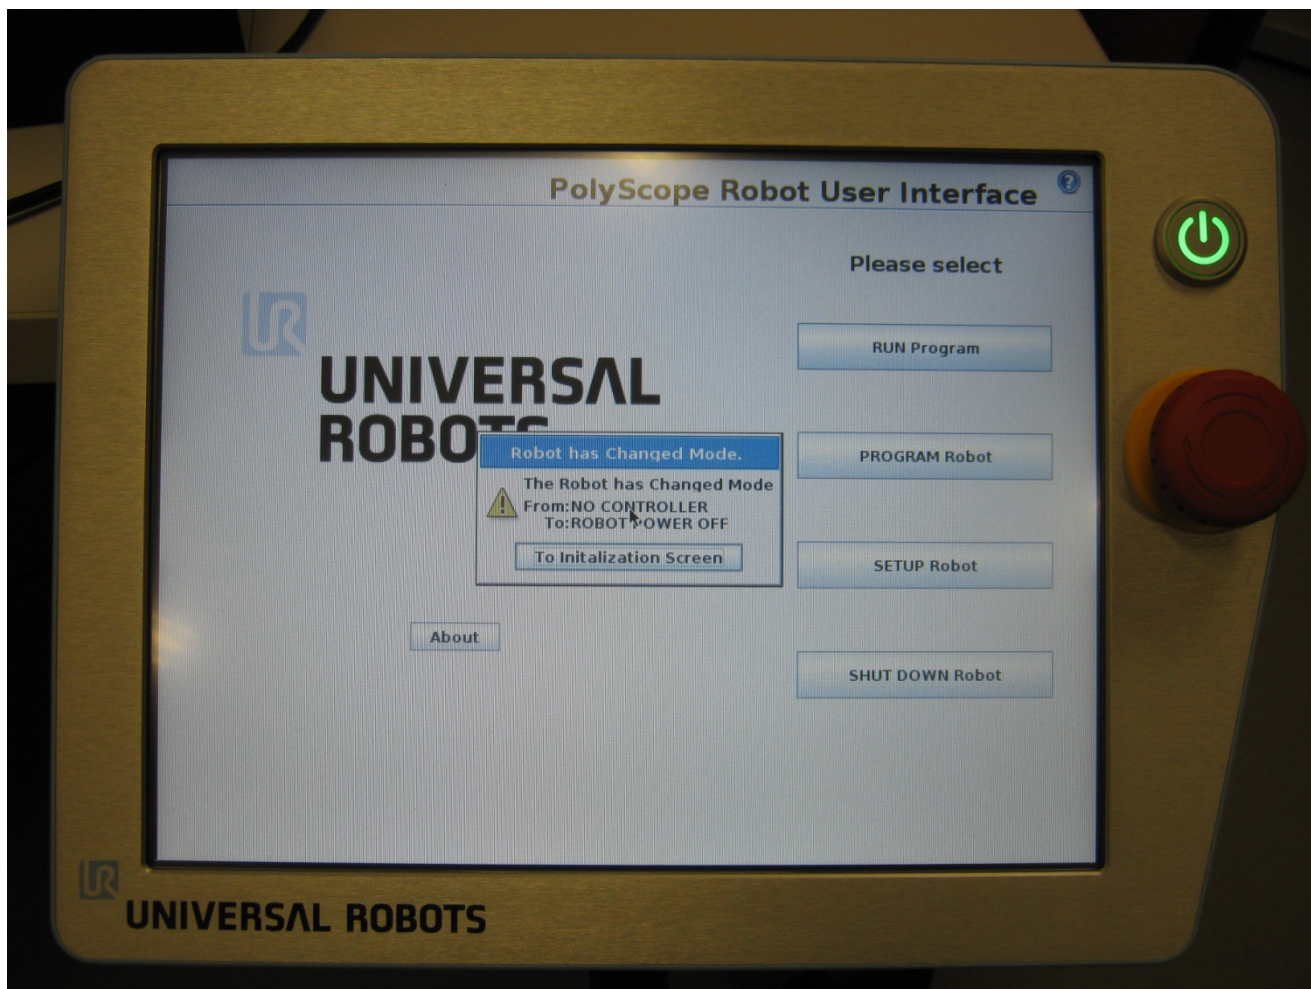

Figure 5 Warning message when robot is first started.
7. On the pendant a warning message will be displayed (Figure 5). Press the “To Initialization Screen” button.